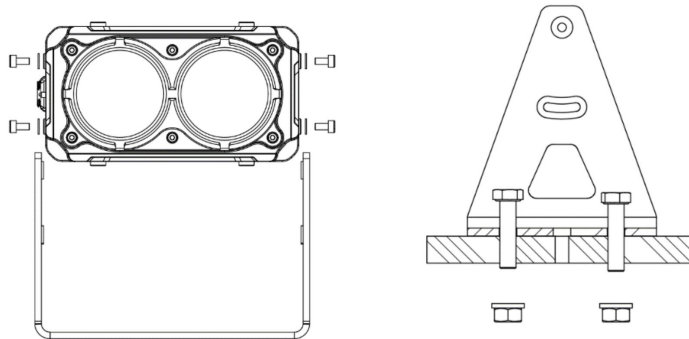

Figure 6 Disassembly of Bracket      Figure 7 Installation of Bracket
Step 1: Loosen the four screws on the left and right sides of the bracket and dismount the Spike-BF (see Figure 6).